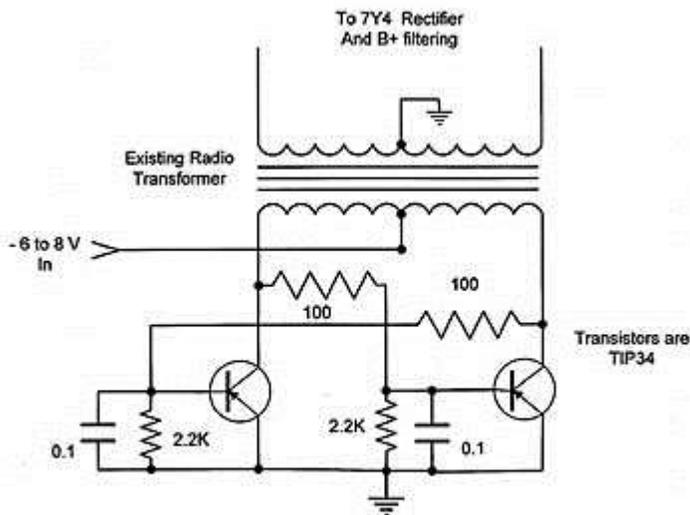

Fig. 2. Vibrator Substitute Design Starting Point
I started by setting up a more powerful version of the D Cell supply I wrote about in an earlier column (1). Figure 2